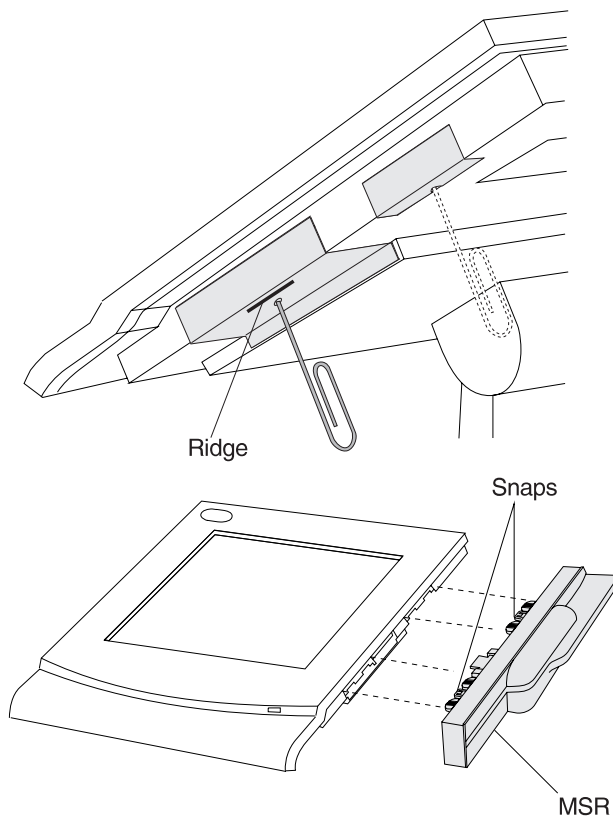

Figure 3-25. Removing the MSR or MSR Blanks
- 1 Insert a small allen wrench or paper clip into one of the two slots underneath the MSR or blanks as shown in Figure 3-25. Push the clip upward to unlatch the snaps on the MSR or MSR blank and pull out sideways from the tablet. Repeat this procedure for the second slot.